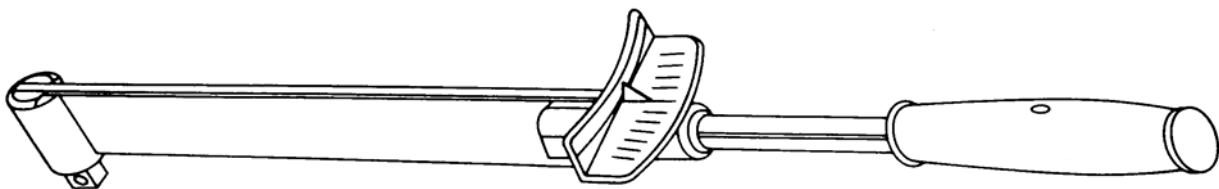

Figure 1. Type I, class 1, style A torque wrench, deflecting beam with indicator plate (direct reading).
Torque Wrench, Direct Reading: (figures 1, 3, and 5). Gradually apply perpendicular force on handle of TI until indication in (1) above is obtained.